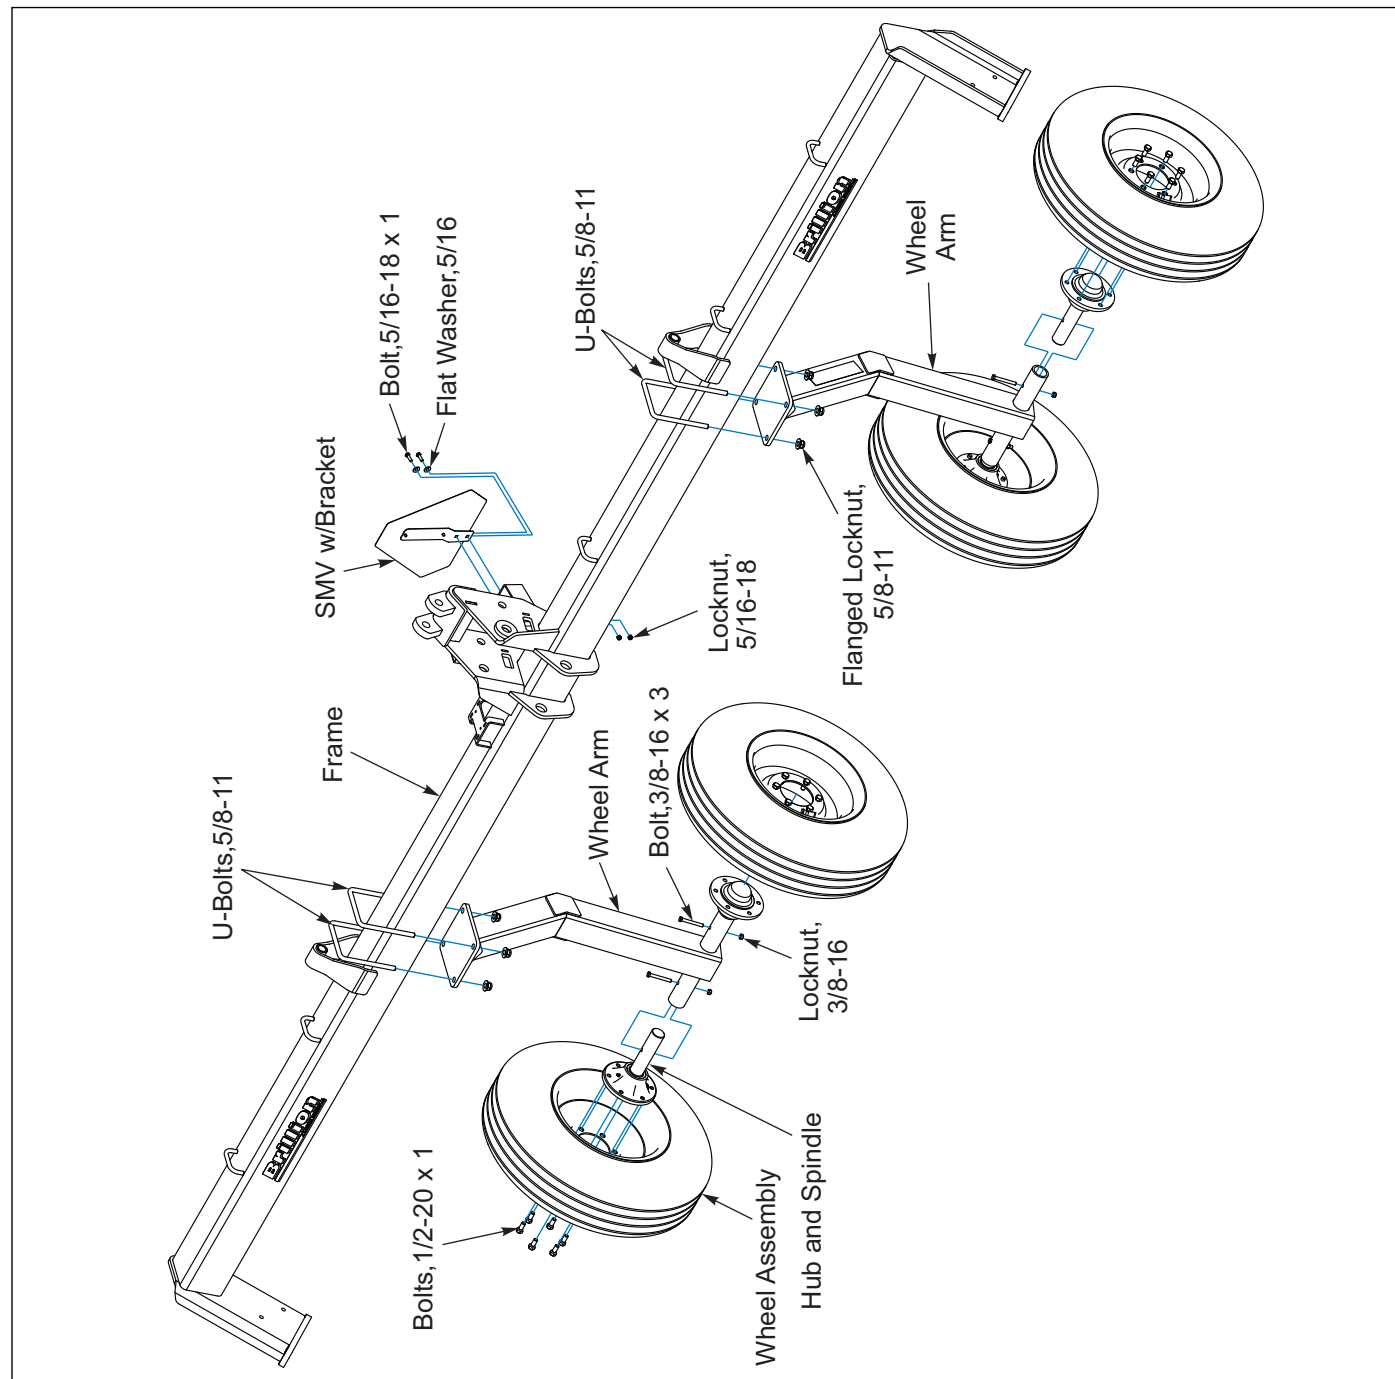

Figure 2-3: Wheel Arm Installation, 18FT - 20FT Models
1. Using 5/8-11 U-Bolts and Flanged Locknuts, attach the Wheel Arms to the Frame. **See Figure 2-3.** View oriented for clarity.